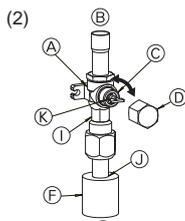

Fig. 4-7
- 2 Stopventilens gasside (Fig. 4-7)